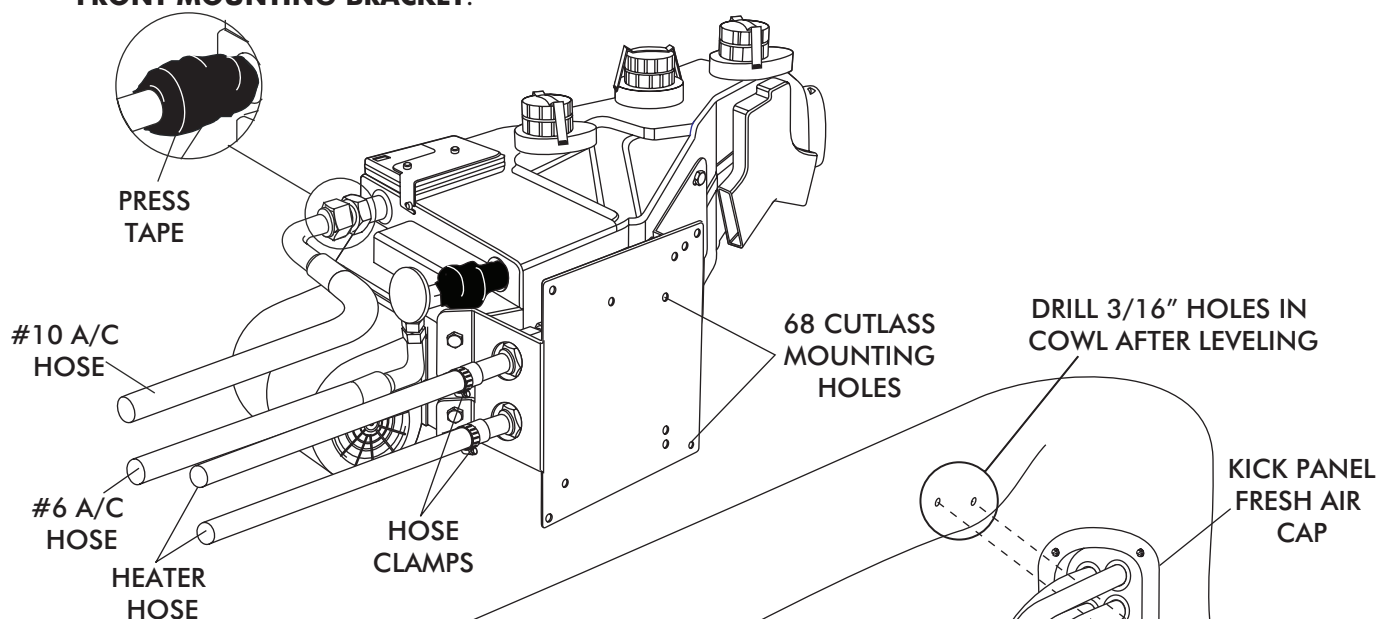
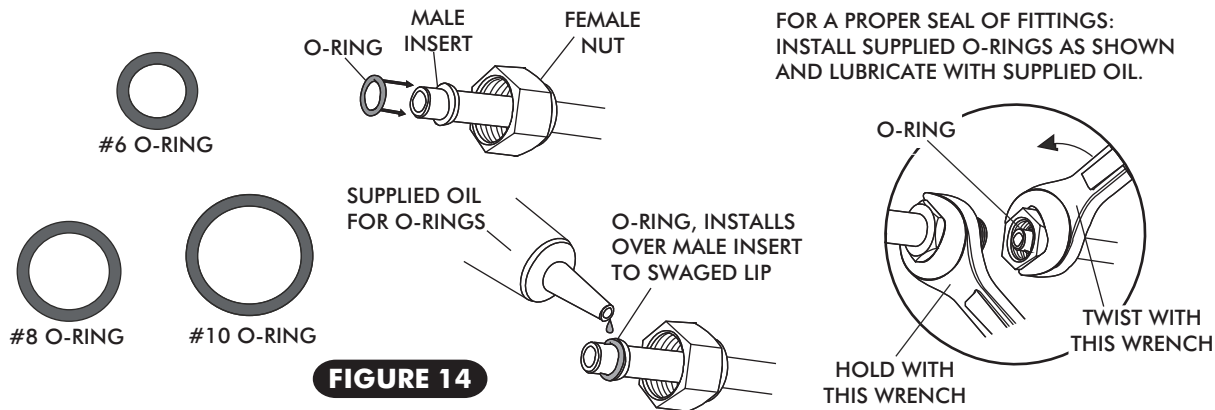
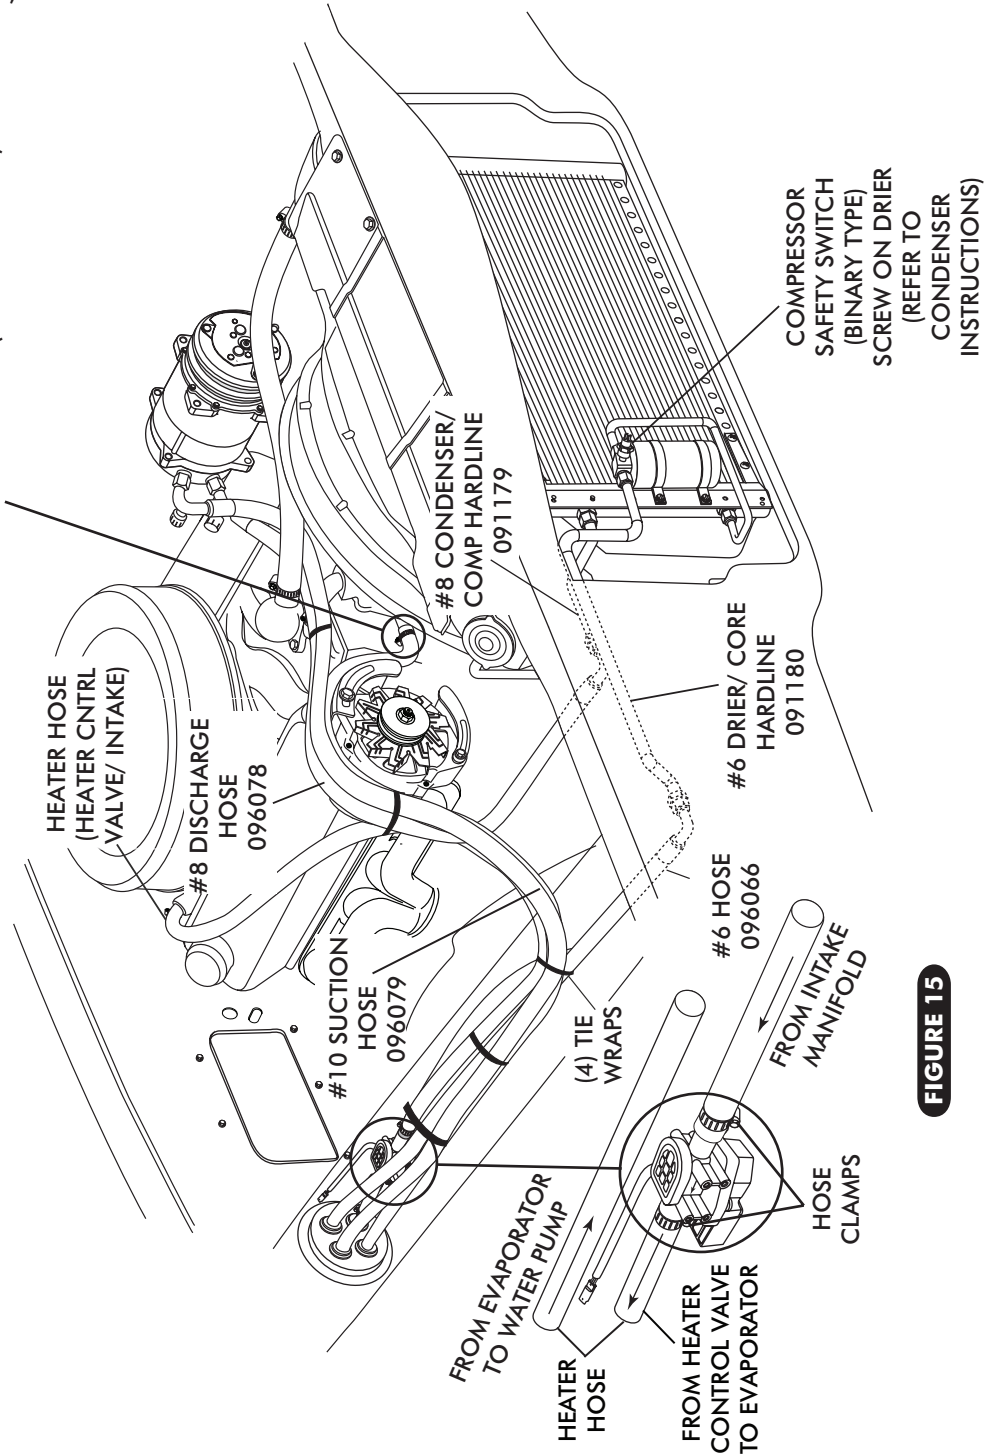

FIGURE 11
FIGURE 14
FIGURE 15
- ON A WORK BENCH INSTALL (2) HEATER FITTINGS WITH PROPERLY LUBRICATED O-RINGS (SEE FIGURE 14, PAGE 14, AND FIGURE 10, PAGE 12).
- LAY EVAPORATOR SUB CASE ON PASSENGER SIDE FLOOR BOARD. INSTALL A/C & HEATER HOSE ON EVAPORATOR AS SHOWN IN FIGURE 14, PAGE 14 AND FIGURE 11, PAGE 13.
- **NOTE: WRAP THE #10 FITTING CONNECTIONS WITH PRESS TAPE. SEE FIGURE 11, PAGE 13.**
- LOCATE THE #8 COMPRESSOR A/C HOSE. LUBRICATE (2) #8 O-RINGS (SEE FIGURE 14, ABOVE) AND CONNECT THE 45° FEMALE FITTING w/ 134a SERVICE PORT TO THE #8 DISCHARGE PORT ON THE COMPRESSOR. ROUTE THE 90° FEMALE FITTING TO THE #8 CONDENSER HARDLINE COMING THROUGH CORE SUPPORT. SEE FIGURE 15, PAGE 15. TIGHTEN EACH FITTING CONNECTION AS SHOWN IN FIGURE 14 ABOVE.
- LOCATE THE #10 COMPRESSOR A/C HOSE. LUBRICATE (2) #10 O-RINGS (SEE FIGURE 14, ABOVE) AND CONNECT THE #10 135° FEMALE FITTING w/134a SERVICE PORT TO THE #10 SUCTION PORT ON THE COMPRESSOR. ROUTE THE 90° FEMALE FITTING TO THE #10 EVAPORATOR. SEE FIGURE 11 PAGE 13 AND FIGURE 15, PAGE 15. TIGHTEN EACH FITTING CONNECTION AS SHOWN IN 14 ABOVE.
- LOCATE THE #6 EVAPORATOR A/C HOSE. LUBRICATE (2) #6 O-RINGS (SEE FIGURE 14 , ABOVE) AND CONNECT THE 90° FEMALE FITTING TO THE #6 HARDLINE COMING THROUGH THE CORE SUPPORT FROM DRIER. ROUTE THE 90° FEMALE FITTING TO THE #6 EVAPORATOR. SEE FIGURE 11, PAGE 13 AND FIGURE 15 PAGE 15. TIGHTEN EACH FITTING CONNECTION AS SHOWN IN FIGURE 14, ABOVE.
- ROUTE A PIECE OF HEATER HOSE FROM THE WATER PUMP TO THE TOP HEATER FITTING OF HEATER CORE AS SHOWN IN FIGURE 11, PAGE 13, AND FIGURE 15, BELOW. SECURE USING HOSE CLAMPS.
- ROUTE A PIECE OF HEATER HOSE FROM THE INTAKE TO THE BOTTOM HEATER FITTING OF HEATER CORE AS SHOWN IN FIGURE 11, PAGE 13, AND FIGURE 15, BELOW. INSTALL HEATER CONTROL VALVE IN LINE WITH INTAKE MANIFOLD (PRESSURE SIDE) HEATER HOSE. SECURE USING HOSE CLAMPS AS SHOWN IN FIGURE 15, BELOW. **NOTE PROPER FLOW DIRECTION.**